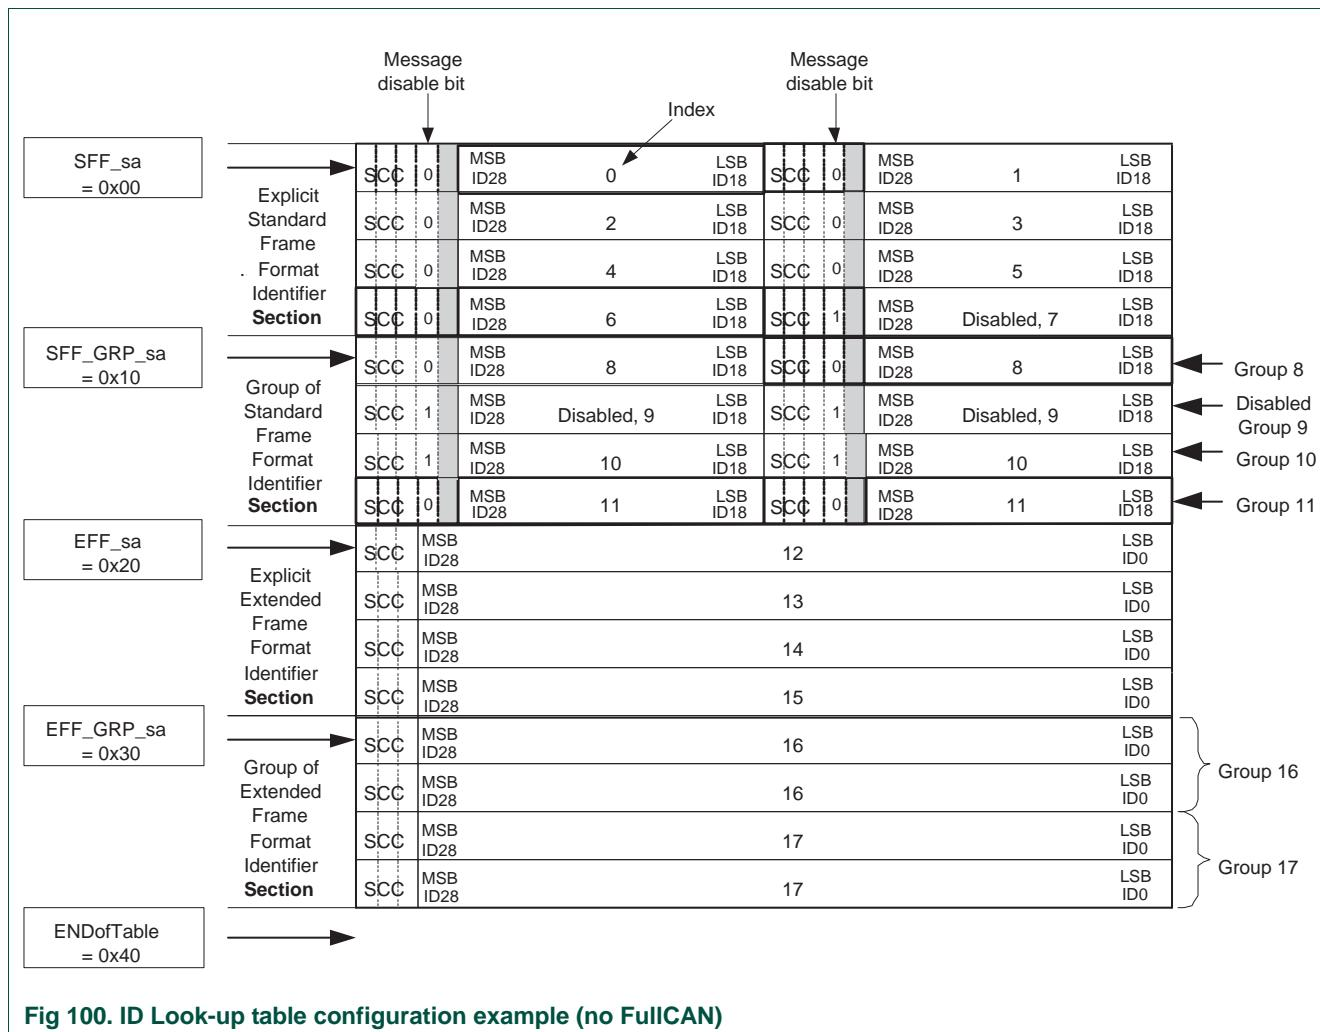

Fig 100. ID Look-up table configuration example (no FullCAN)
The Table below shows which sections and therefore which types of CAN identifiers are used and activated. The ID-Look-up Table configuration of this example is shown in Figure 100.
**Explicit extended frame format identifier section (29-bit CAN ID, Figure 100)**
**Group of extended frame format identifier section (29-bit CAN ID, Figure 100)**